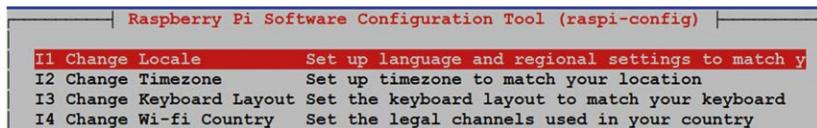

Figure 8.6: Select Change Timezone.
- Select **Change Timezone** (see Figure 8.6).